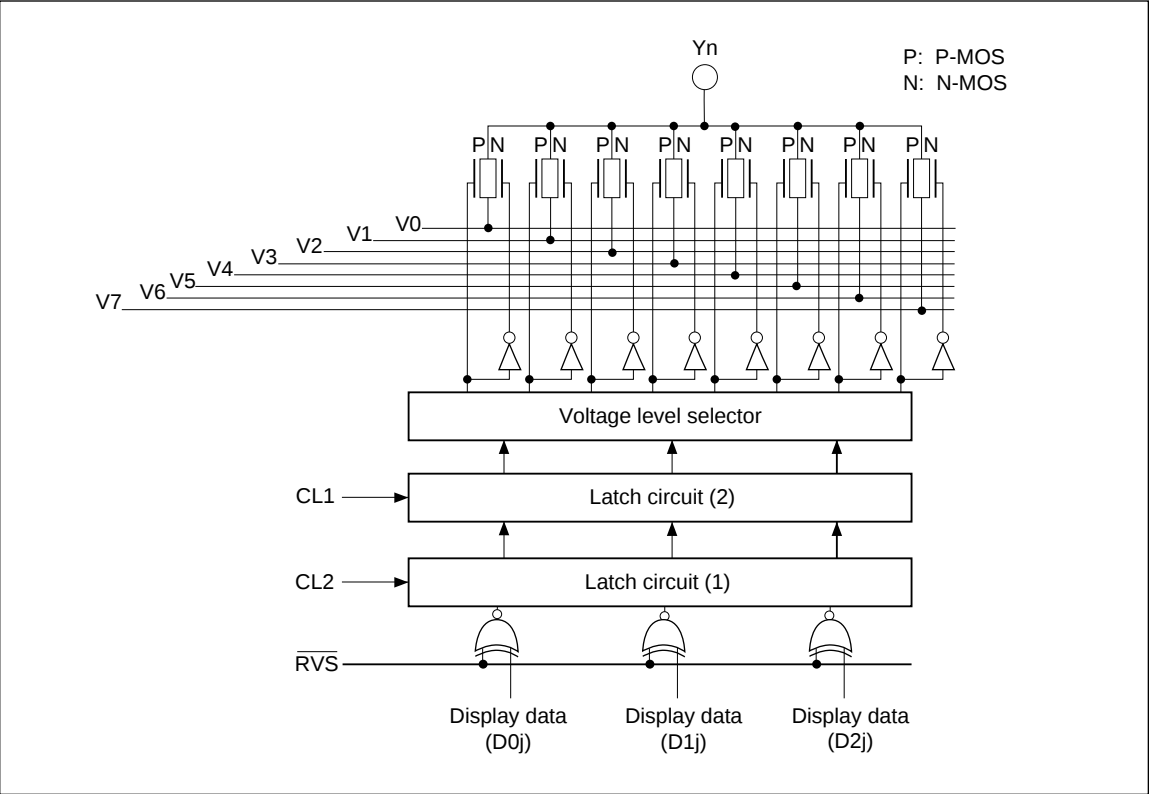

Figure 4 LCD Driving Circuit
The HD66310 internal circuit unit for one data output is shown in figure 4. The circuit receives 3-bit data (D0j, D1j, D2j) and selects one of eight voltage levels (V0–V7) to output to the LCD.
- As shown in figure 4, the data reverse circuit is before the latch circuit (1). The LCD driving output is reversed one CL1 period after a transition of the $\overline{RVS}$ signal, as shown in figure